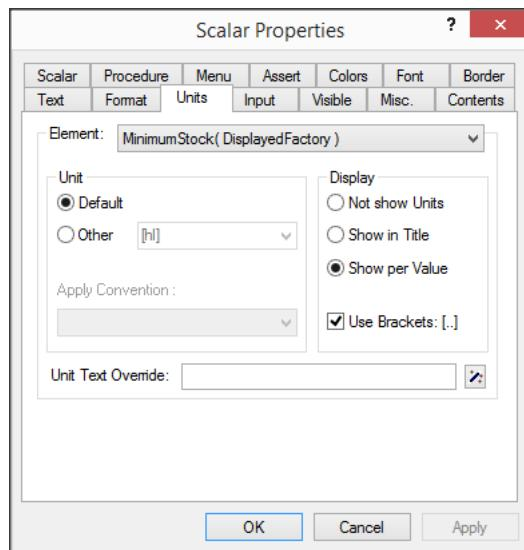

Figure 11.38: The **Property** dialog of factory scalar object
- ▶ select the **Show per Value** radio button under **Display** as Figure 11.38,